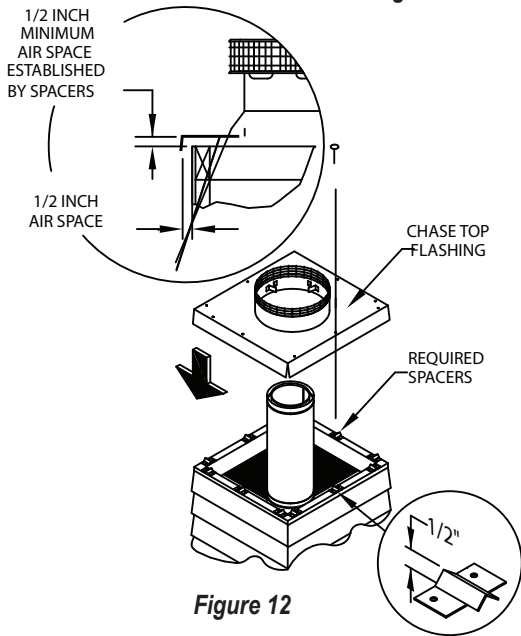

Figure 12
**12. Attach Flashing:** For chase enclosures, use a Chase Top Flashing. The Chase Top Flashing allows for a 1 1/2-inch clearance maintained from the chimney and provides required ventilation air. Install the Chase Top Flashing at the top of the chase with a 1/2-inch minimum air clearance off the top of the chase construction (Fig. 12, 13). Use spacing clips provided to establish 1/2-inch air clearance. If the Chase Top Flashing does not fit the dimensions of the chase, use a Chase Top Collar Section and extend the base of the flashing as needed for the chase dimensions.
Ensure the minimum ½-inch spacing and perimeter ventilation requirements are met as show in **Figure 12**. Secure the Chase Top Collar Section to the field-fabricated chase top with sheet metal screws or rivets (**Fig. 14**). Seal Chase Top Collar Section to chase top with non-hardening waterproof sealant to ensure a weather tight connection. Additional screening as needed for field-fabricated chase covers is allowed. Additional ½-inch minimum spacers can be field-fabricated as needed out of 24 GA sheet metal or other suitable non-combustible material. Additional non-combustible structural supports can be field-fabricated to help support the chase top flashing if needed, provided the air ventilation requirements are maintained. Secure the Chase Top Flashing to the chase with at least three (3) screws or nails per side. When installed, the bottom of the Chimney Cap must be at least 6 inches above the Chase Top Flashing (**Fig. 15**).